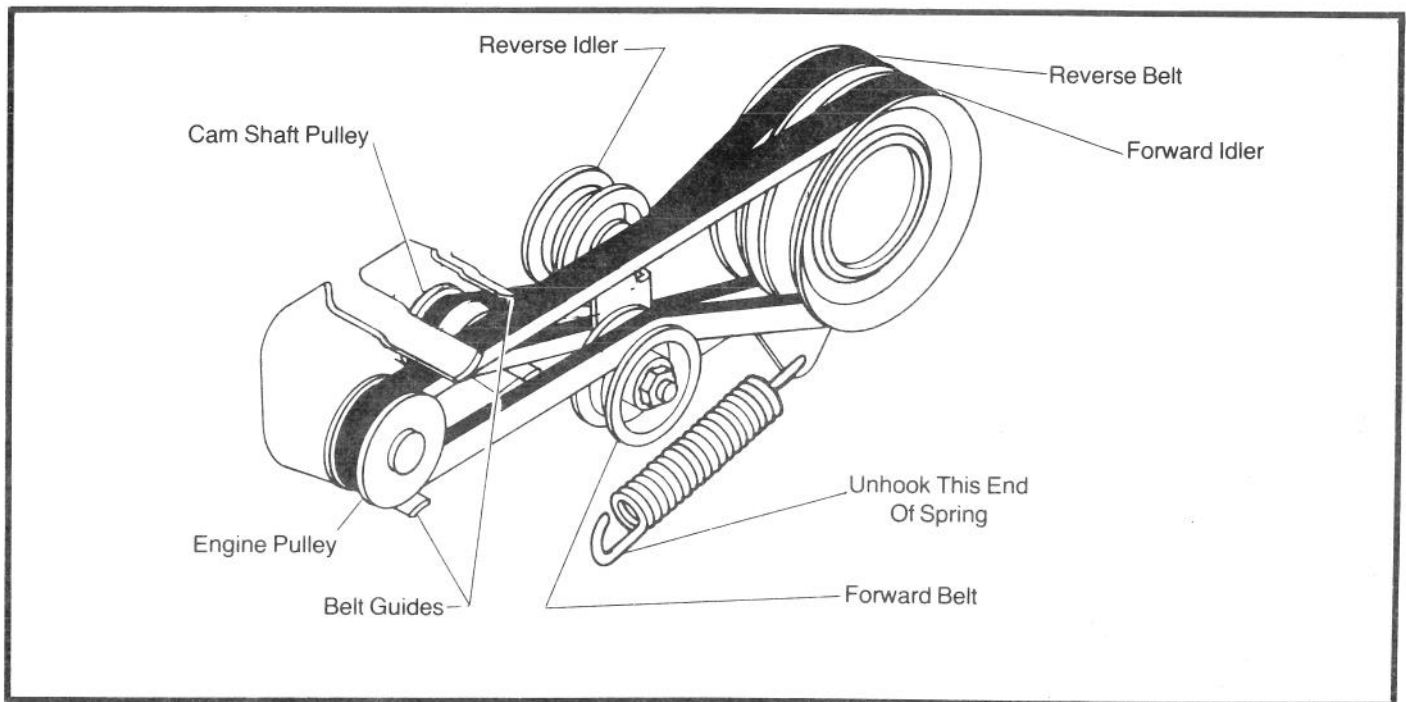

FIGURE 13
2. Unhook the front end of spring from engine mounting bracket, Fig. 13.
6. Be sure belt is between belt guides and under reverse idler, Fig. 13.